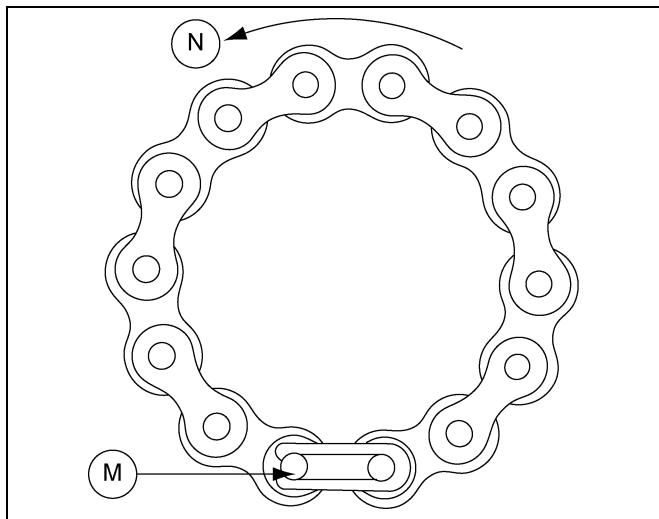
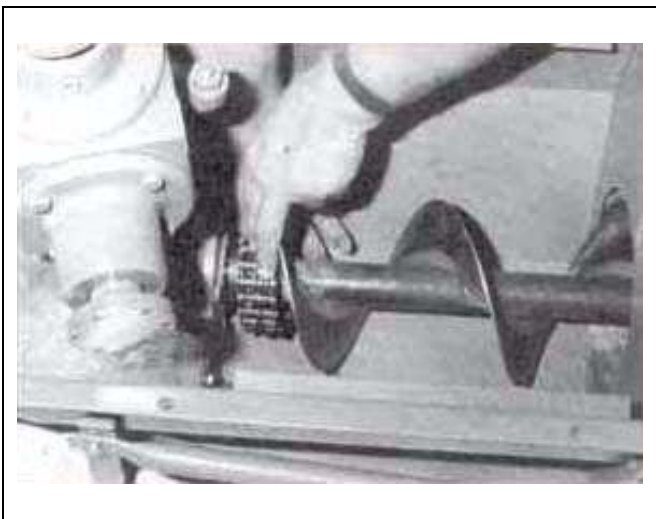

Figure 5L Viewed with the clip on the gearbox side away from the flighting.
Figure 5M
12. Slide the discharge auger flighting into the auger tube and connect to the gearbox drive sprocket with a #50 roller chain coupling. Be sure to install the chain retaining clip in the counterclockwise rotation direction. (See Figure 5L and Figure 5M.)